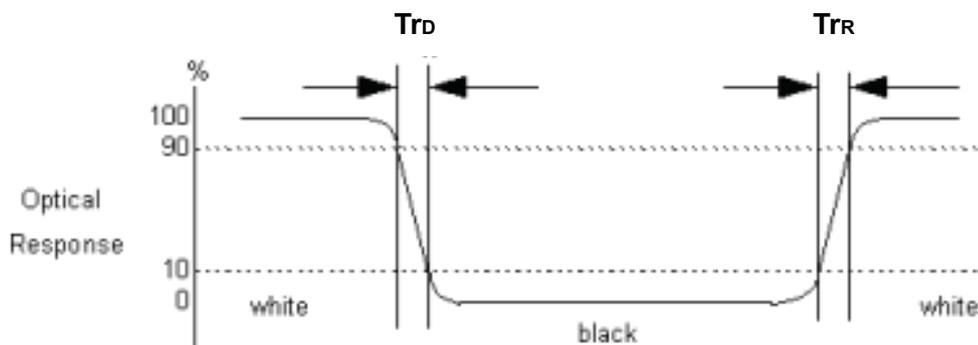

Fig.4-3 Response time
4. Response time is the time required for the display to transition from white(L_{255}) to black(L_0) (Decay Time, $T_{RD} = T_f$) and from black(L_0) to white(L_{255}) (Rise Time, $T_{RR} = T_r$). For additional information see FIG4-3.